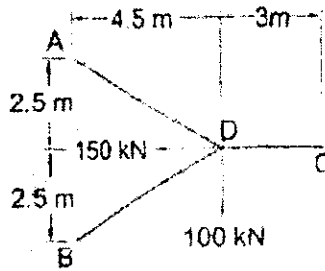

Figure 3
7. The feet A, B and C being in same horizontal plane and the apex D being 3.75 m above the plane of Tripod as shown in Figure 3. Find out the coordinates of all the